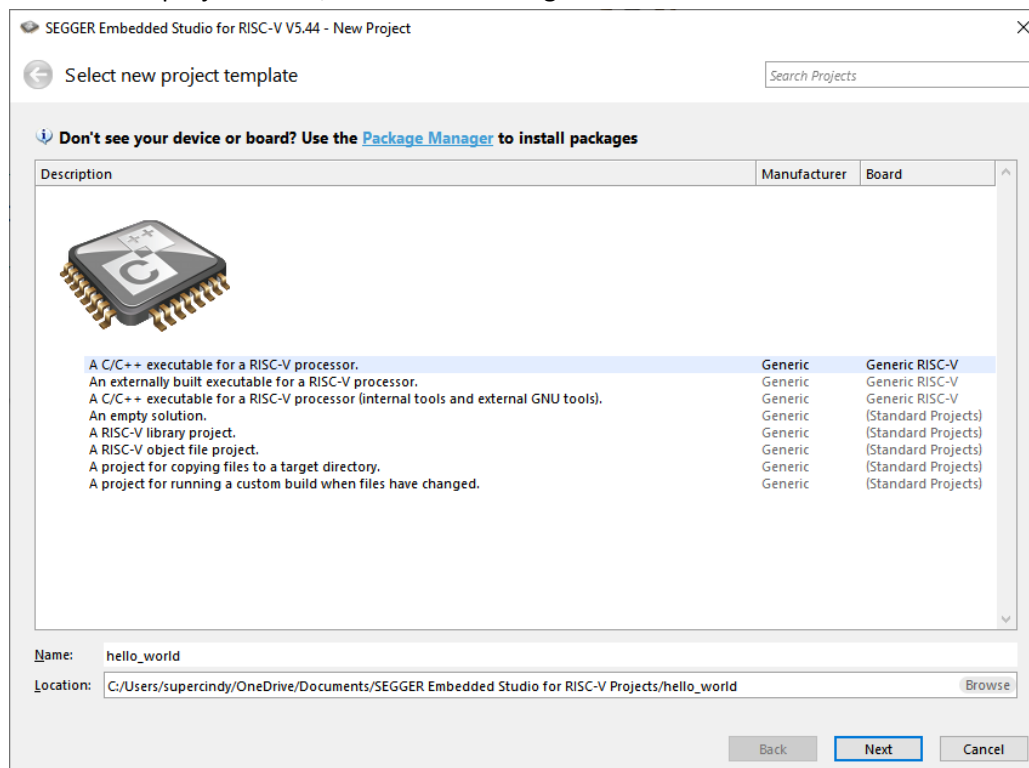

Figure 6-4 Embedded Studio, New Project Dialogue
5. In the New Project Dialogue, select "A C/C++ executable for a RISC-V processor.". And type in "hello_word" for the project name, as illustrated in Figure 6-4.